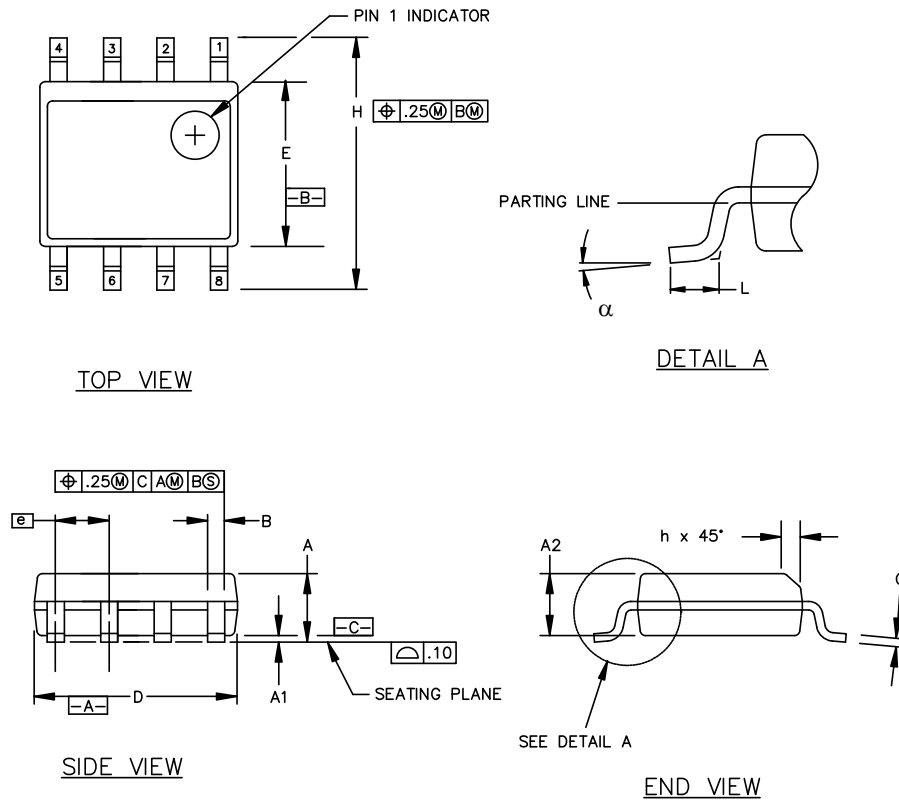

Figure 17. 8-pin Small Outline Integrated Circuit (SOIC) Package
Figure 17 illustrates the package details for the Si822x. Table 15 lists the values for the dimensions shown in the illustration.
- Removed introductory text and Figure 17.